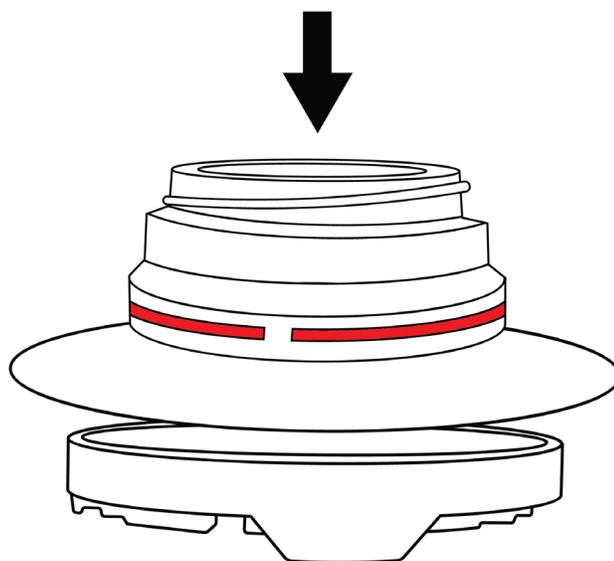

Figure 20 Place adapter and filter on saturation plate
4. Place the adapter with the red marking line downward on the saturation plate. (Figure 20)